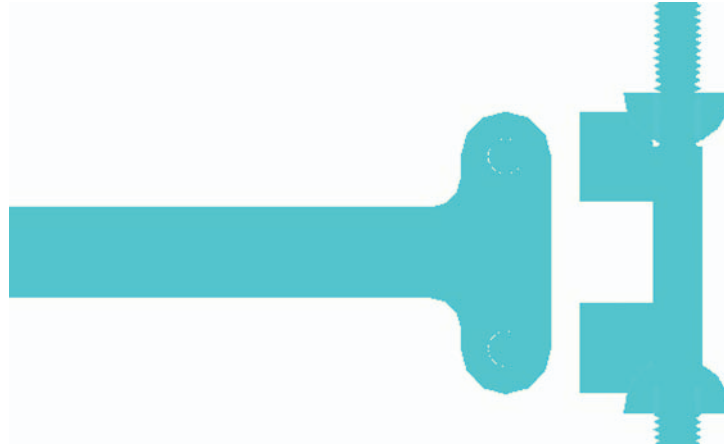

Fig. 14.29 Second example – Section
Second example – Section (Fig. 14.29)
2. Call the **Section** tool and proceed as in the First example – Section above making the section on a layer **Hatch** of colour **Cyan** and shade in **Conceptual** mode. The result is shown in Fig. 14.29.